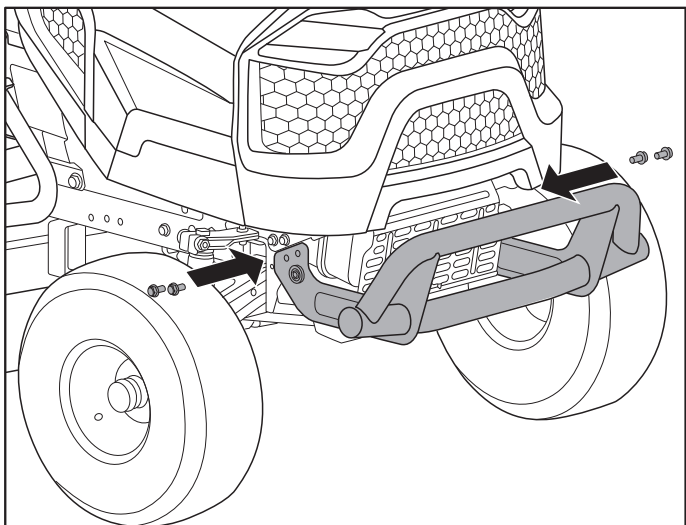

Fig. 7
1. Position the bumper bar in the front of the tractor.(Fig. 7)
2. Install the bumper bar with the four bolts provided (two on each side).(Fig. 7)